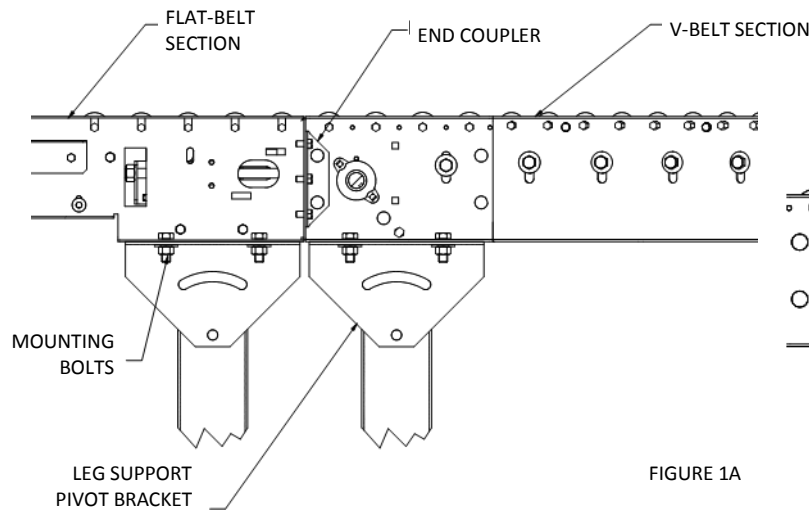

FIGURE 1A
**Note:** If the V-Belt conveyor will be connecting to another V-Belt conveyor, (1) support may be placed on the splice of the two units, due to frame depths being the same. However, if it to be connected to some other type where the frame depths are different, the supports will need to be placed at the ends of both units.
- 5) Fasten sections together with end couplers and leg support pivot brackets. Hand tighten only. See figure 1A and 1B.
- 1) Fasten sections together with end couplers and leg support pivot brackets. Hand tighten only. See figure 1A and 1B on page 25.